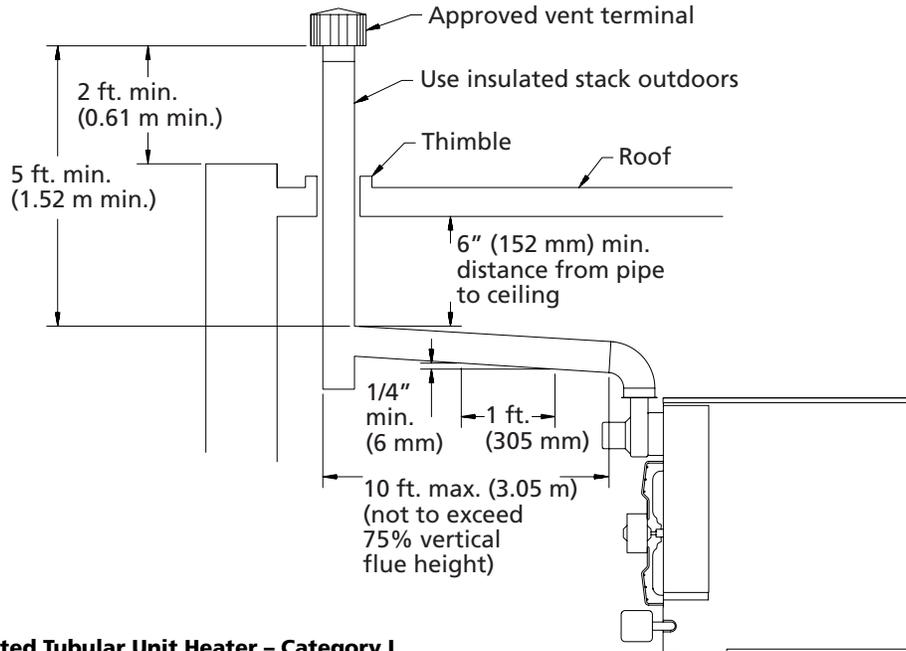

Figure 6 – Vertically Vented Tubular Unit Heater – Category I
All unit heaters must be vented! All Venting installations shall be in accordance with the latest edition of Part 7, Venting of Equipment of the National Fuel Gas Code, ANSI Z223.1, or applicable provisions of local building codes. Refer to page 14 for Canadian installations. Refer to Figures 6, 7, 8A, 8B, 9A, and 9B.
3. Slope horizontal runs upward from the gas unit heater at least 1/4-inch per foot (21 mm/m). Horizontal runs should not exceed 75% of the vertical height of the vent pipe, or chimney, above the flue pipe connection, up to a maximum length of 10 feet (3 m). Horizontal portions of the venting system shall be supported at maximum intervals of four feet (1.22 m) (See Figure 6).